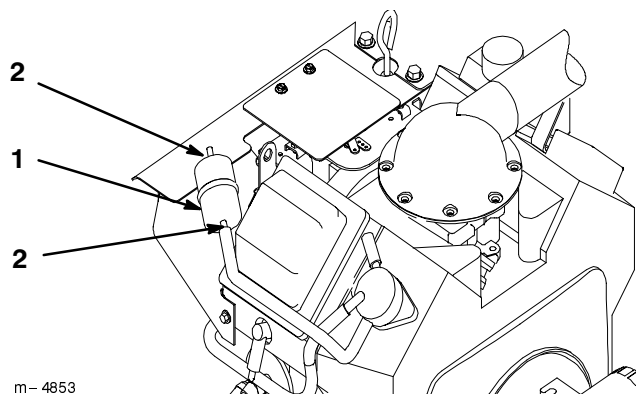

Figure 62
3. Squeeze the ends of the hose clamps together and slide them away from the filter (Fig. 62).